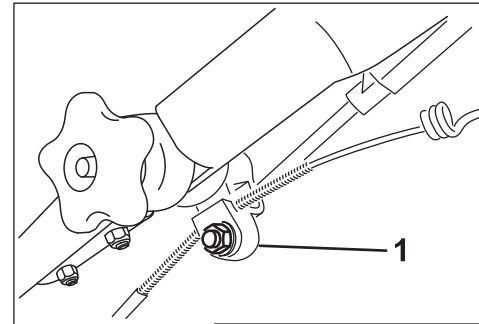

Figure 44
- Loosen the nut on the cable mount (Figure 44).